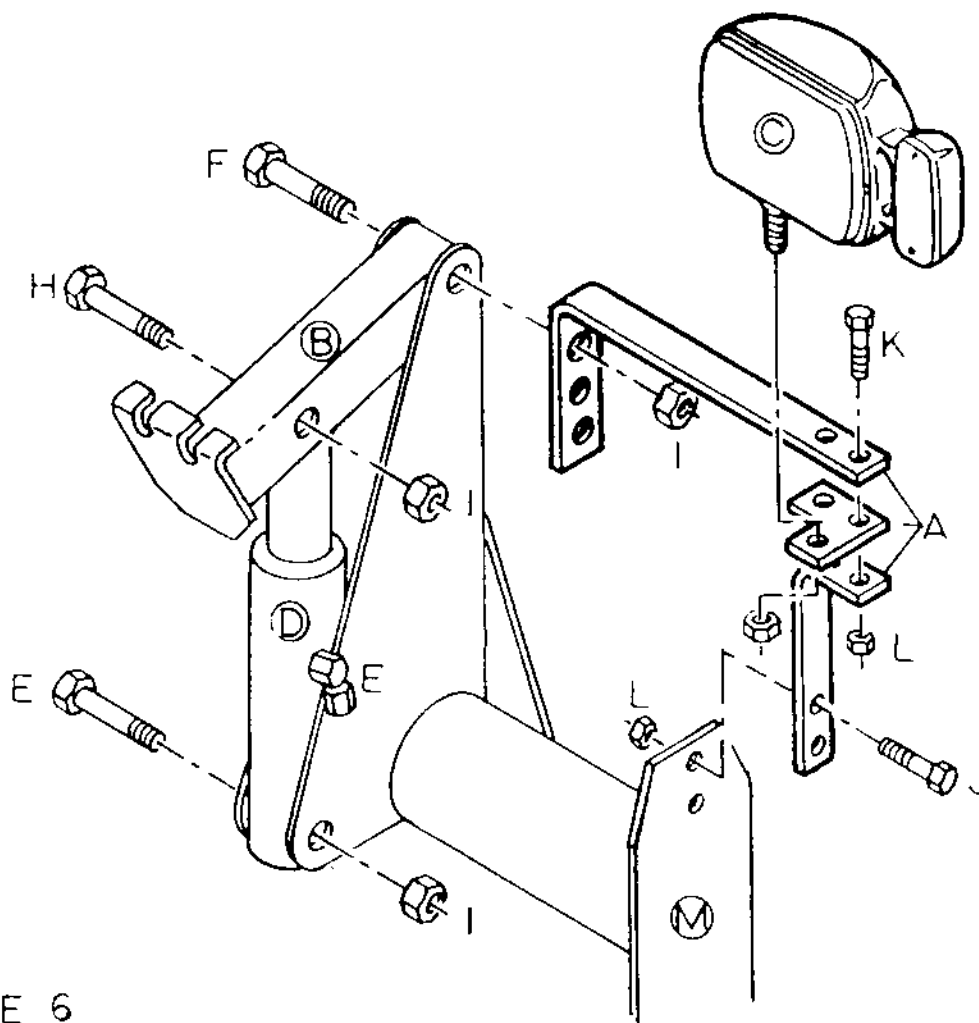

FIGURE 6
1. Install the AUXILIARY LIGHT BRACKETS (Ref. No. A, Fig. 6) to the LIFT TOWER as shown in Figure 6 using the hex head bolts and nuts provided.
2. Install LIFT ARM (Ref. No. B, Fig. 6) to the top of the LIFT TOWER ASSEMBLY using the 5/8" x 4-1/2" HEX HEAD BOLT (Ref. No. F, Fig. 6) and 5/8" SELF LOCKING NUT (Ref. No. I, Fig. 6) provided.
3. Position the LIFT CYLINDER (Ref. No. D, Fig. 6) in its respective position on the LIFT TOWER and fasten by using the 5/8" x 4" HEX HEAD BOLT (Ref. No. G, Fig. 6) and 5/8" SELF LOCKING NUT (Ref. No. I, Fig. 6) provided. Install the 90 DEGREE SWIVEL FITTING (Ref. No. E, Fig. 6). Fasten the rod end of the cylinder to the LIFT ARM using the 5/8" x 3-1/2" HEX HEAD BOLT (Ref. No. H, Fig. 6) and 5/8" SELF LOCKING NUT (Ref. No. I, Fig. 6) provided.
4. Mount the AUXILIARY HEADLIGHTS (Ref. No. C, Fig. 6) to the AUXILIARY LIGHT BRACKETS as shown in Figure 6. Do not tighten the AUXILIARY HEADLIGHT mounting nut as the positioning of the lights will have to be adjusted once the wiring has been completed.